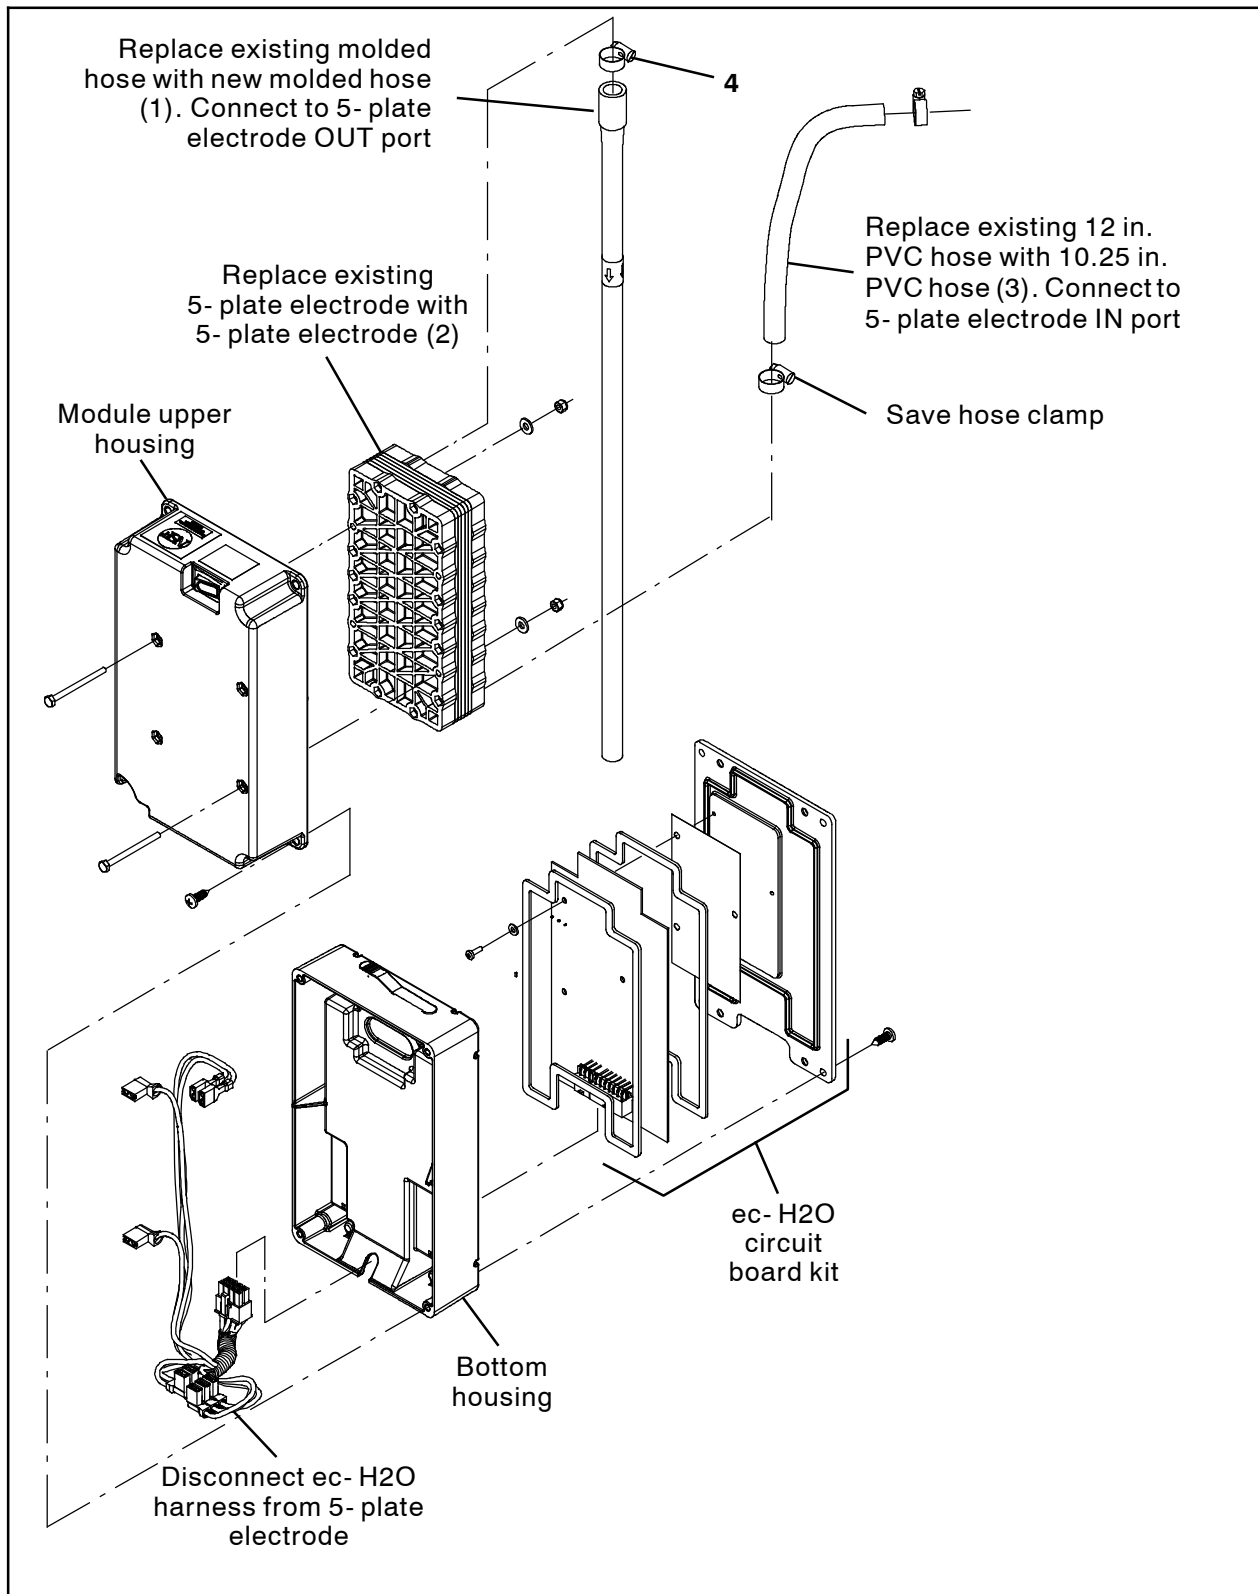
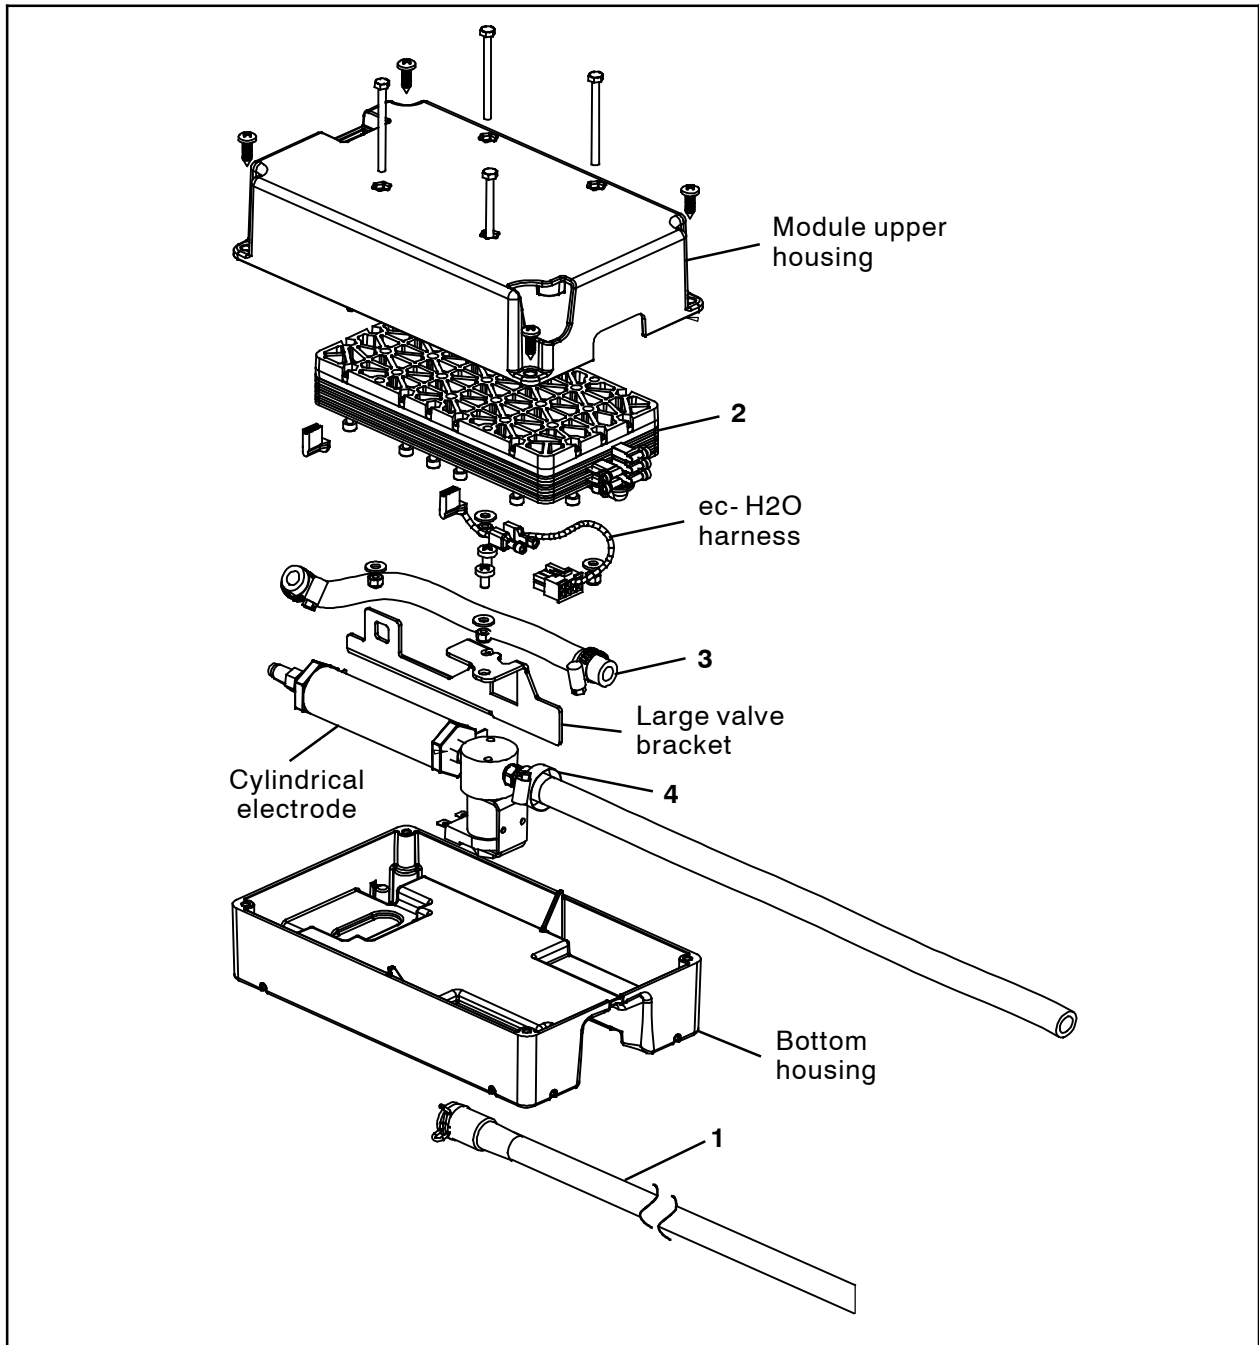
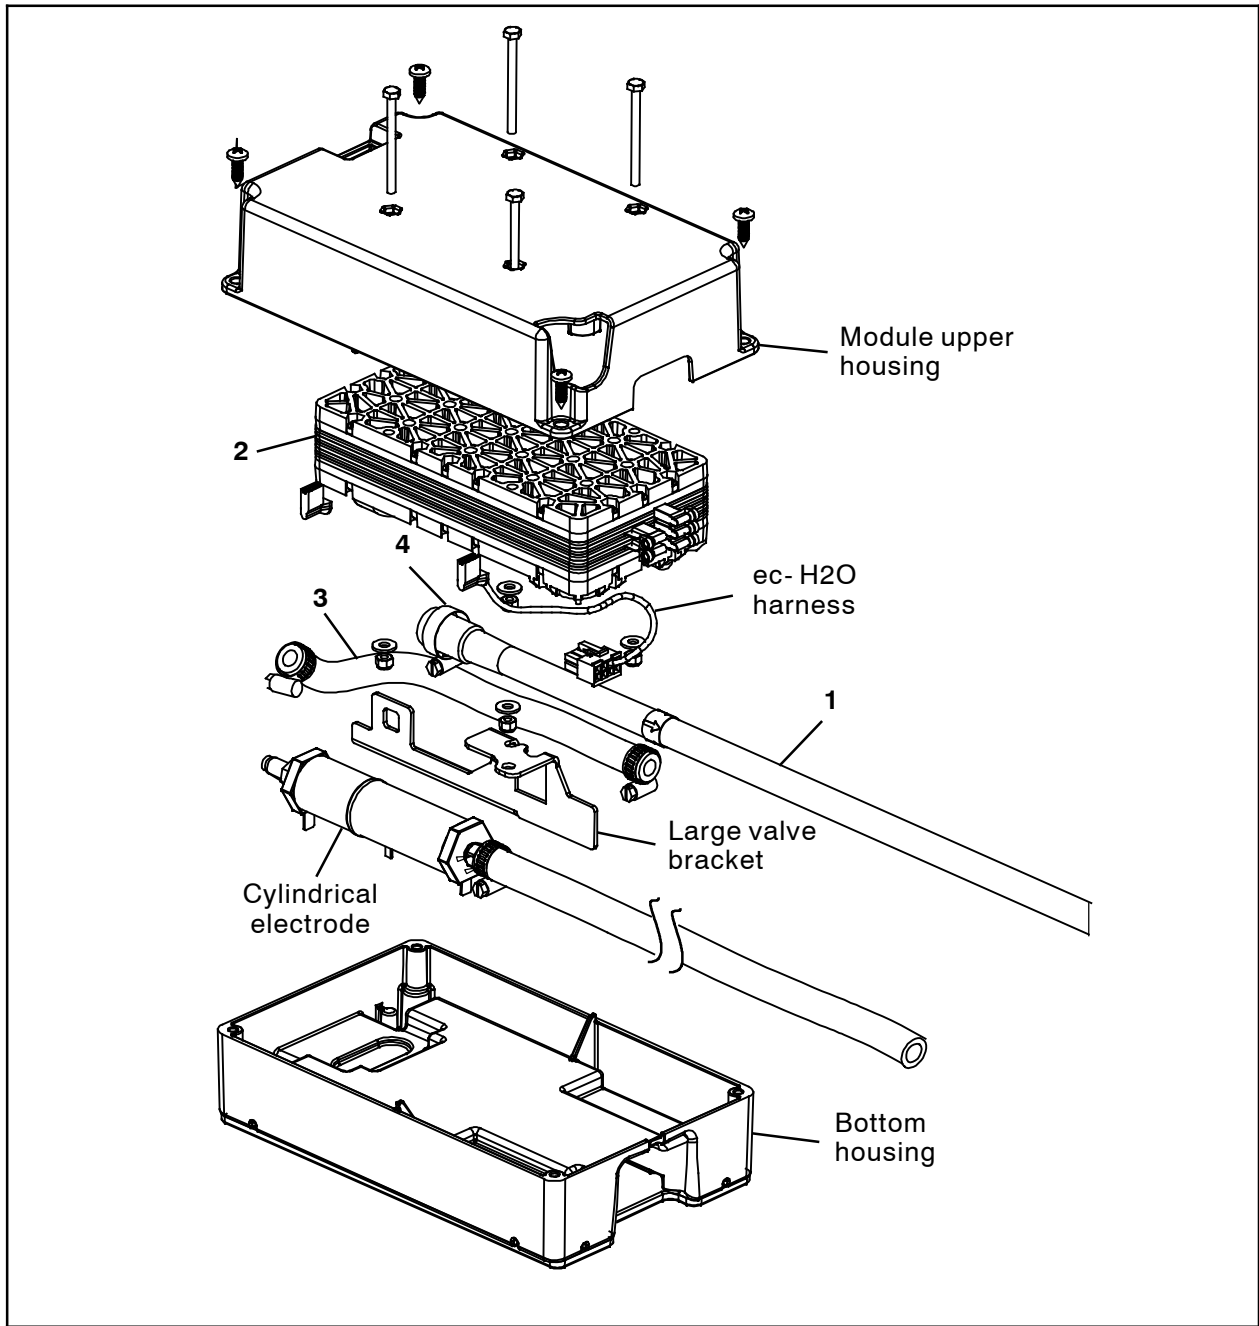

FIG. 1
FIG. 3 - 1049958
FIG. 4 - 1212103
4. Remove module upper housing from the bottom housing. Set all hardware aside. (Fig. 1/Fig. 3/Fig. 4)
5. Disconnect the PVC hose from the 5- plate electrode IN port. Set the hose clamp aside. Discard the removed PVC hose. (Fig. 1/ Fig. 3/Fig. 4)
6. Disconnect the molded hose from the 5-plate electrode OUT port. Discard the removed PVC hose and hose clamp. (Fig. 1/Fig. 3/ Fig. 4)
7. Remove the hardware securing the 5-plate electrode to the module upper housing. Set all hardware aside. (Fig. 1/Fig. 3/Fig. 4)
8. Disconnect the ec- H2O harness connections from the bottom of the 5- plate electrode. Discard the 5- plate electrode. (Fig. 1)
9. Connect the ec- H2O harness to the new 5- plate electrode (2). (Fig. 1)
10. Use saved hardware to install the 5- plate electrode (2) into the module upper housing. (Fig. 1/Fig. 3/Fig. 4)
13. Reinstall module upper housing onto the bottom housing. Do Not pinch hoses/wires between the module upper housing and the bottom housing. (Fig. 1/Fig. 3/Fig. 4)
14. **If ec- H2O module was removed from the machine to install the new 5- plate electrode (2):** Reinstall the ec- H2O module onto the machine.
15. If necessary, cut the the molded hose (1) to the appropriate length to be reconnected to the existing machine ec- H2O plumbing. (Fig. 1)